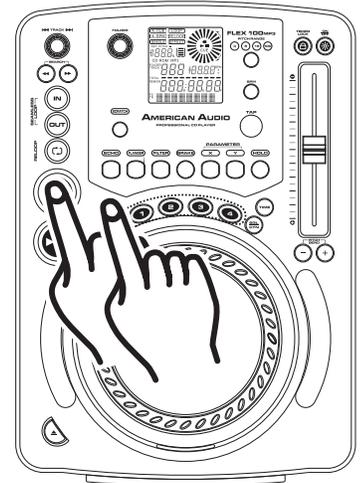
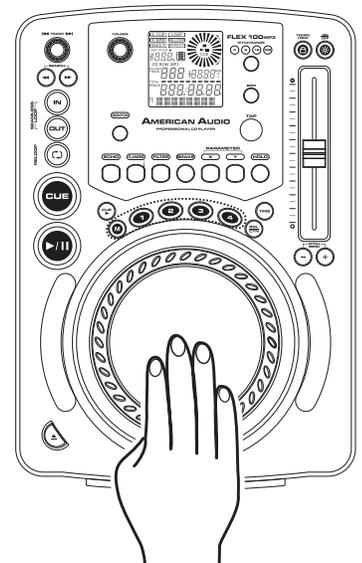

Figure 11
Figure 12
This feature allows you to scroll through a track frame by frame, allowing you to find and set a starting cue, sample, or loop point. To use the scroll function you must first be in Pause Mode (see section 6) or Cue Mode (see section 9). Once you are in Pause or Cue mode, turn the *JOG WHEEL (14)* to scroll through the track (*Figure 12*). Turning the wheel in a clockwise direction will advance the frame search and turning the wheel in a counter-clockwise direction rewinds the frame search. When you use the *JOG WHEEL (14)* the monitor (headphone level) function allows you to hear what you are scrolling through. Once you reach your desired starting point you can set a cue (starting) point by pressing the *IN BUTTON (24)* as in *Figure 19*. Pressing the *CUE BUTTON (20)* or *CUE PLAY BUTTON (19)* as in *Figure 11* will now return you to the point you just set.